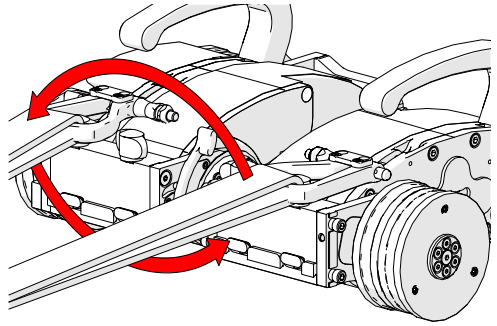

Fig. 17 - Proper shackle setup
2. Reverse the lifting sling and shackles (Fig. 17) so that the shackles are free to lay down flat allowing for low profile sling setup.